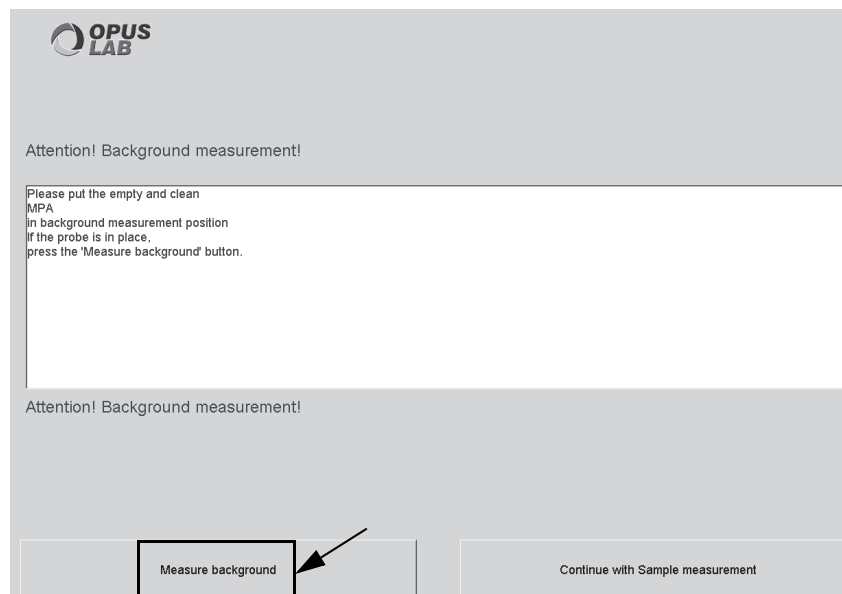

Figure 40: OPUS LAB - Background measurement
- 5) Click the *Measure* background button (figure 40). A new background spectrum is measured which replaces the old one. The new background spectrum has been acquired as soon as the *Measurement finished* message is displayed in the white list box.